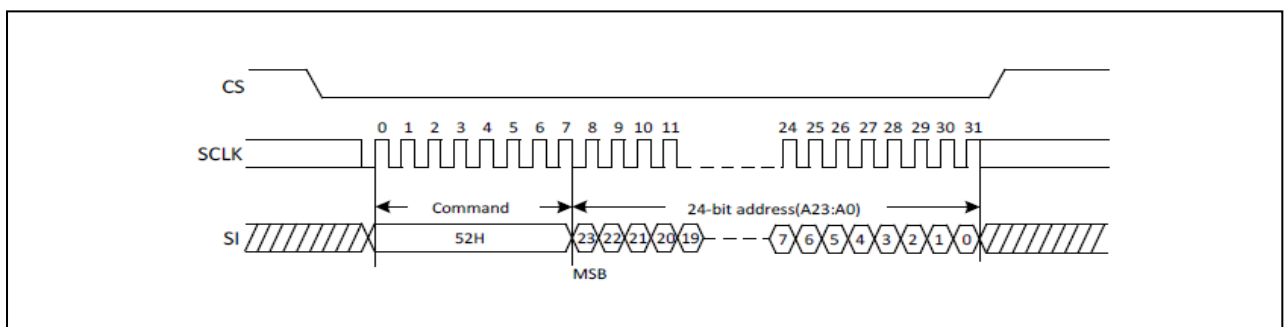

Figure20. 32KB Block Erase Sequence Diagram
The 32KB Block Erase command sequence: CS# goes low sending 32KB Block Erase command 3-byte address on SI, CS# goes high. The command sequence is shown in Figure20. CS# must be driven high after the eighth bit of the last address byte has been latched in; otherwise the 32KB Block Erase (BE) command is not executed. As soon as CS# is driven high, the self-timed Block Erase cycle (whose duration is tBE) is initiated. While the Block Erase cycle is in progress, the Status Register may be read to check the value of the Write In Progress (WIP) bit. The Write In Progress (WIP) bit is 1 during the self-timed Block Erase cycle, and is 0 when it is completed. At some unspecified time before the cycle is completed, the Write Enable Latch (WEL) bit is reset. A 32KB Block Erase (BE) command applied to a block which is protected by the Block Protect (BP3, BP2, BP1, BP0) bits (see Table1 & 1.1) will not be executed.